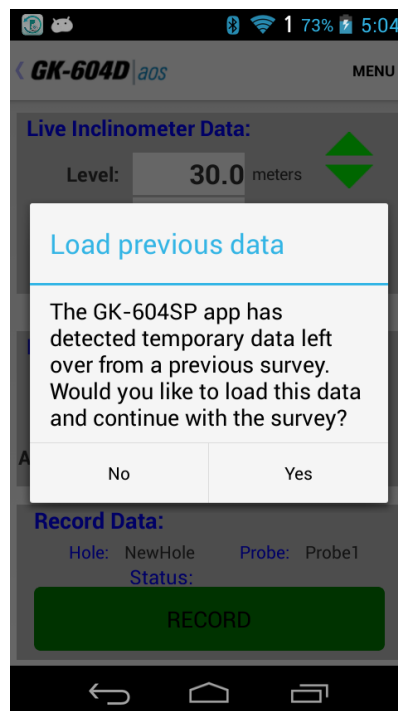

Figure 38 - Temporary File Data Prompt
- 2) Figure 38 shows the message displayed if the GK-604D|aos detects temporary data left over from a previous survey that wasn't saved. Tapping “Yes” loads the previous data and then displays the Live Readings. Tapping “No” displays the Live Readings.